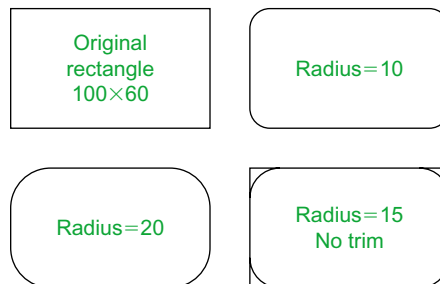

Fig. 5.42 Examples – **Fillet**
### Examples – Fillet (Fig. 5.42)
1. Construct three rectangles 100 by 60 using either the **Line** or the **Polyline** tool (Fig. 5.42).
Three examples are given in Fig. 5.42.